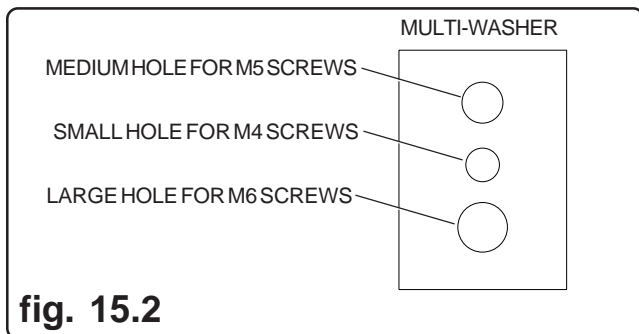

fig. 15.2
- Use the corresponding hole in the multi-washer that matches your screw size as shown in figure 15.2.